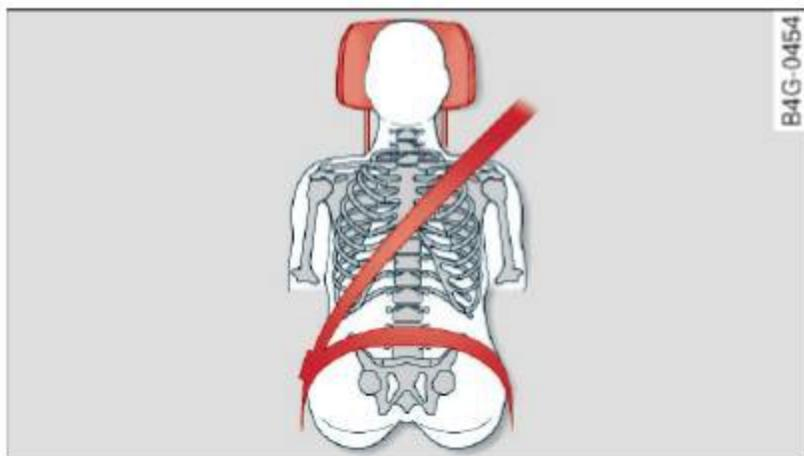

Fig. 140 Head restraint: viewed from the front
- ▶ Adjust the head restraints so the upper edge is as even as possible with the top of your head. If that is not possible, try to adjust the head restraint so that it is as close to this position as possible ⇒ *fig. 140*.